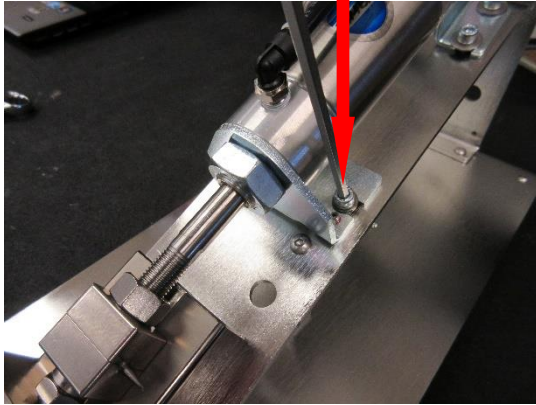

Figure 3.2.7
- **Note:** If the cylinder shaft won't retract when being cycled the adjustment of both set screws on the front cylinder mount bracket will need to be adjusted. To make the adjustment you must first loosen the two 6x12mm screws using a 5mm hex wrench (*Figure 3.2.7.*) and then by adjusting the two set screws using a 3/32nd hex wrench. (*Figure 3.2.8.*) Now tighten the two 6x12mm screws and ensure jaw alignment.